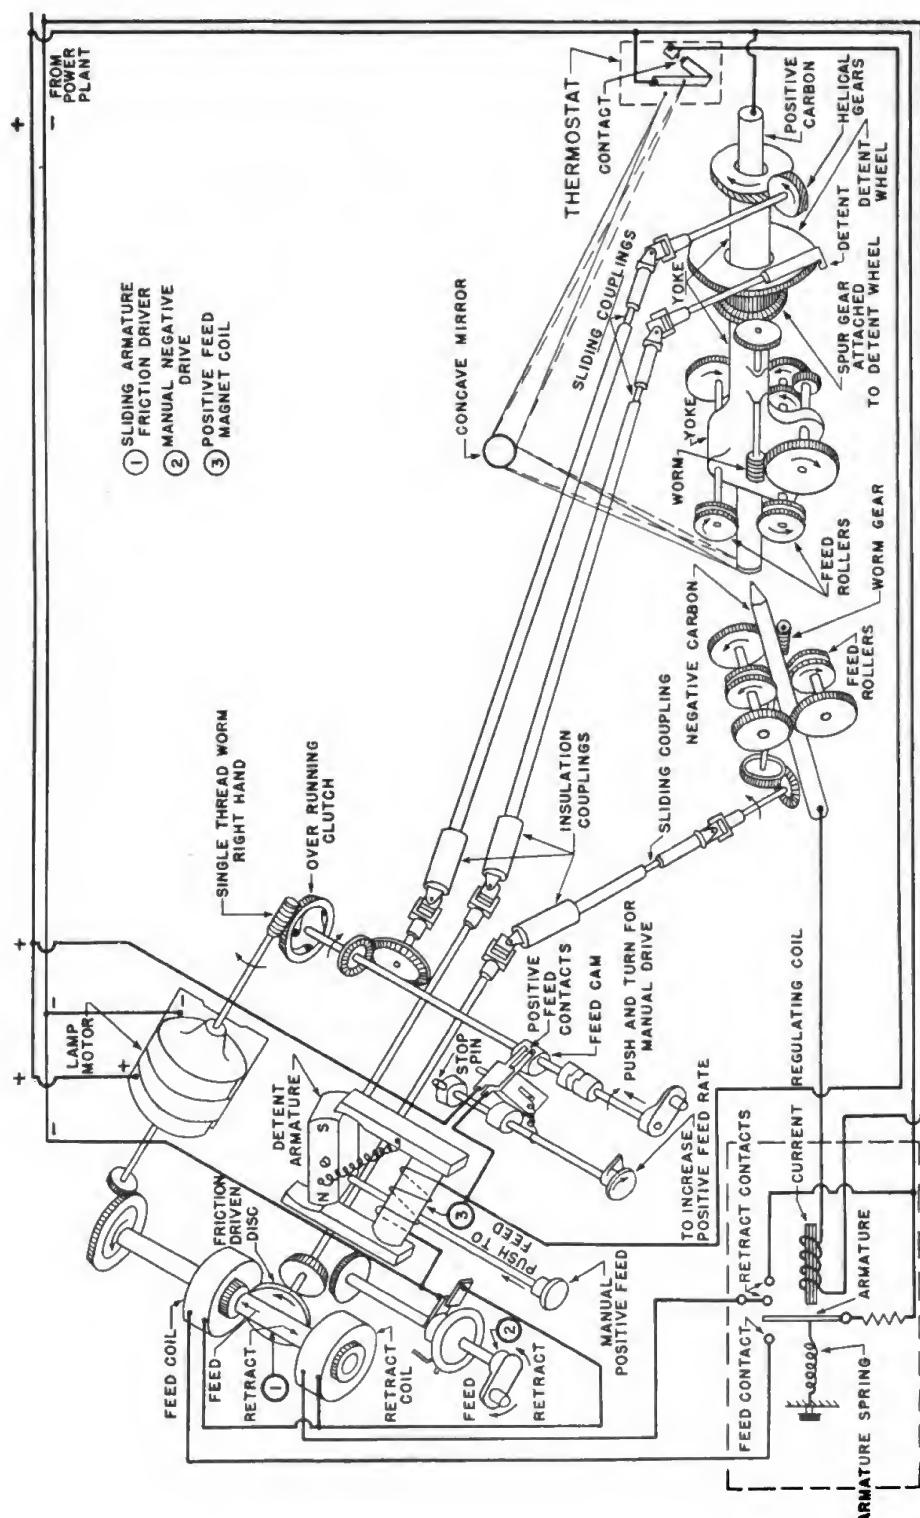

FIGURE 30.—Schematic diagram of General Electric lamp control mechanism and lamp mechanism.
(1) *Positive feed*.—See figure 30. The lamp motor, through a set of gearing and shafts, drives a helical gear on the positive head, which transmits a constant rotary motion to the yoke and positive carbon. When the detent is not engaged with the detent gear, the entire assembly, including the spur gear, rotates with the yoke. When the detent is engaged with the detent gear, the spur gear attached to the detent wheel is kept from rotating, causing the outside gear to rotate around the attached spur gear, thereby causing the feed rollers, through a worm drive, to feed the positive carbon forward.